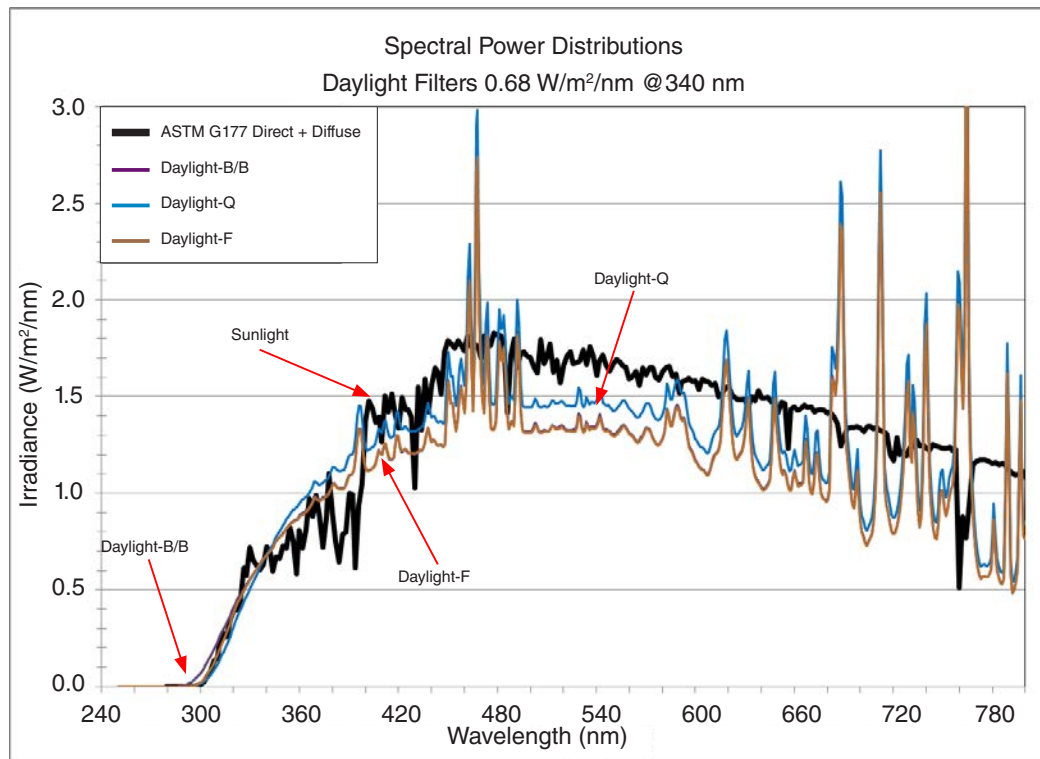

Figure 6.4b: Spectral power distributions of Daylight filters from 250-800 nm.
- See Figure 6.4b through Figure 6.4h for spectral power distributions of the optical filters.